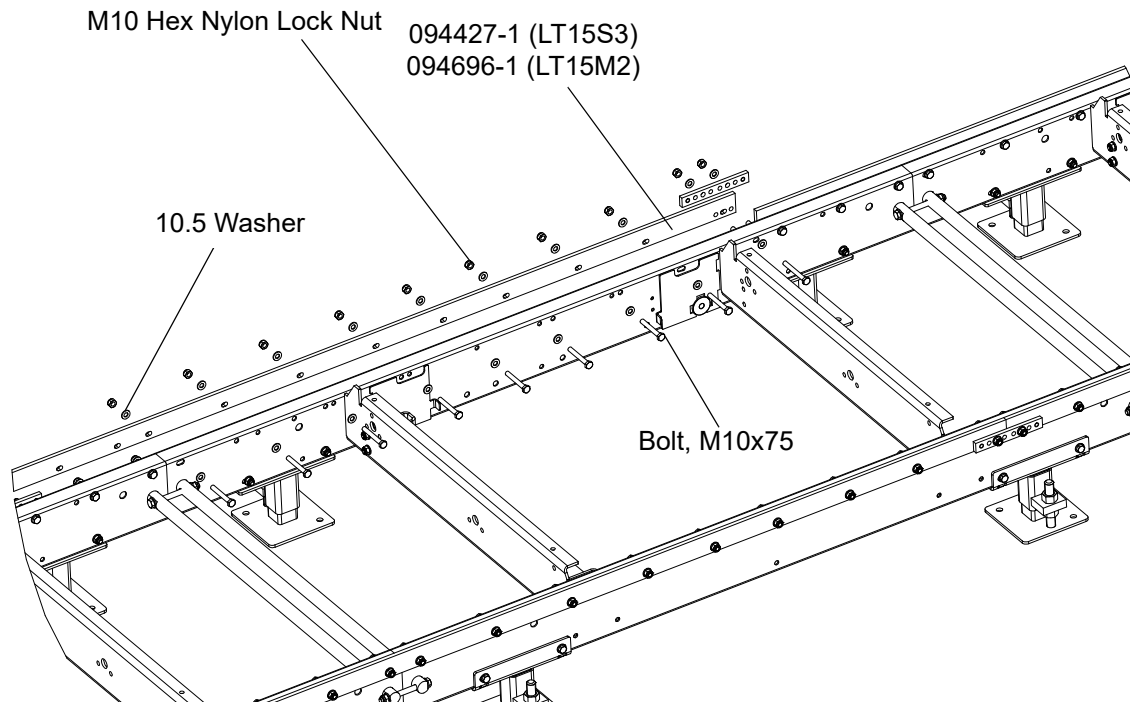

FIG. 2-3
1. Mount preliminarily the track rail as shown in Figure 2-3. Do not tighten the nuts.
See figure 2-3.